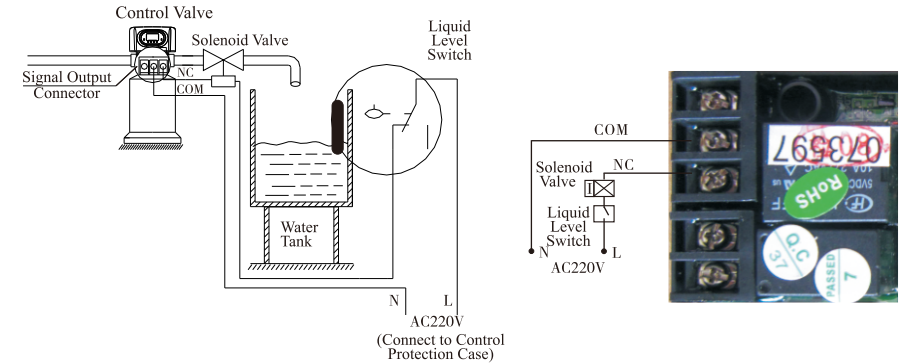

Figure3-1 Wiring of Solenoid Valve on Outlet
① Solenoid valve on outlet controls water level in water tank.
**Instruction:** If system strictly requires no hard water flowing from outlet in regeneration cycle ( Mainly for no hard water flows out when valve is switching or valve in backwash or brine drawing positions), a solenoid valve could be installed on outlet, the wiring refers to Figure 3-1: